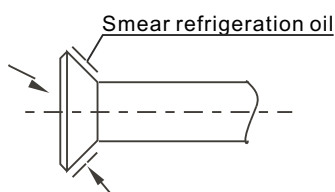

Figure 5.1
- b. Smear the refrigeration oil (it must be engine oil which is compatible with the cooling medium of this type) on the outside surface of flared joint and the conical surface of connecting nut and screw it 3 or 4 rounds with your hand (Fig. 5.1) before screwing the flared nut up.